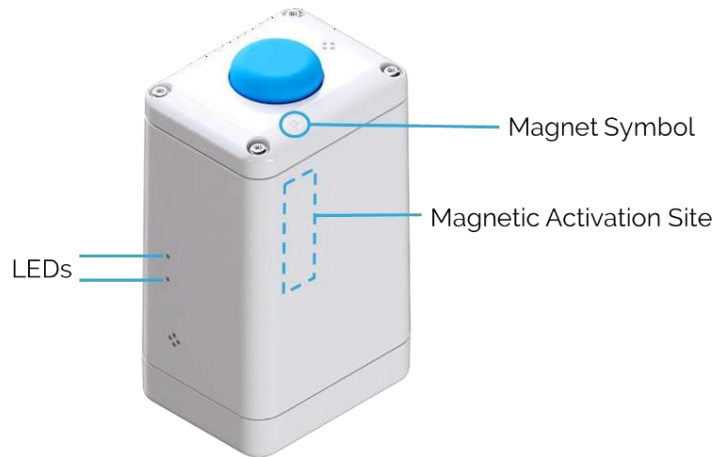

Figure 2-1: ROBIN Enclosures and External Interfacing
1. Place the magnet for 3 to 10 seconds at the magnetic activation site as shown in Figure 2-1 below.